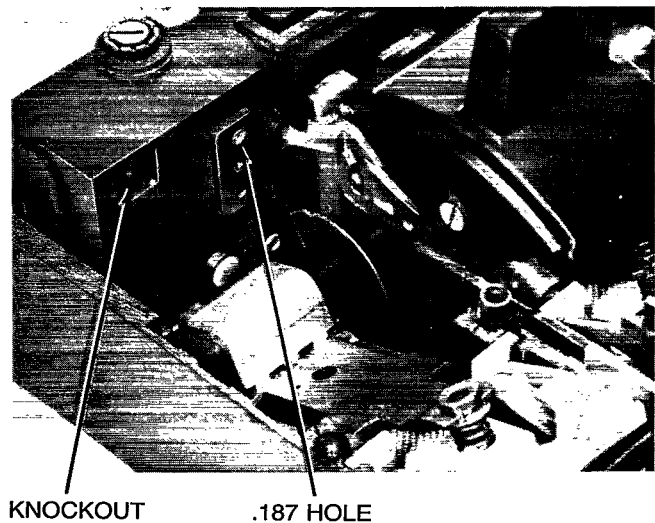

Figure 3. Location of the knockout and the hole to be enlarged in the trip unit housing.
4. At the position indicated in Figure 3, enlarge the existing hole to 0.187" diameter and 0.327" deep. Press the insert provided into the hole until it is flush with or below the trip unit surface.
5. Being careful not to eject chips into the trip unit case, use a small screwdriver to gently pry out the knockout in the trip unit case, as illustrated in Figure 3. Remove any debris that may have entered the breaker housing.